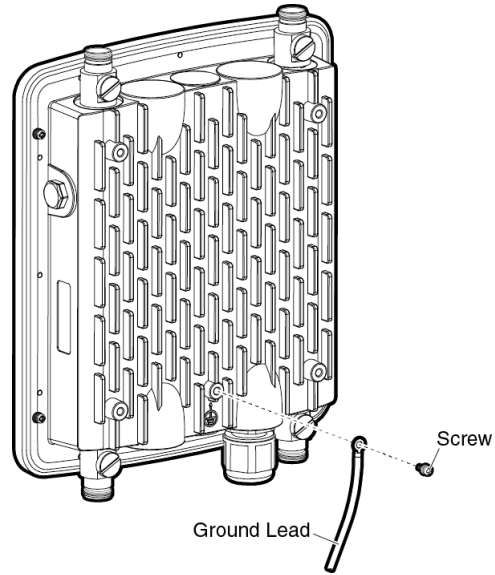

Figure 9. Aligning the Access Point with Ground Cable
1. Align the ground cable hole on the access point with the ring terminal of the ground cable as shown in Figure 9 on page 42.